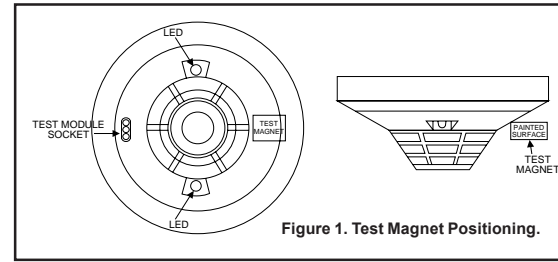

Figure 1. Test Magnet Positioning.
- Test the detector by positioning the test magnet against the detector body approximately 2cm from LED1 in the direction of the metering socket (see Figure 1).